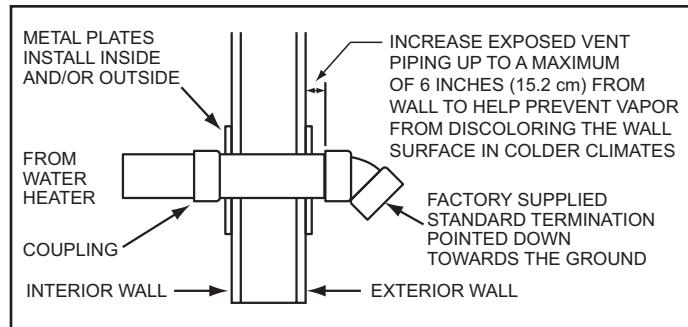

Figure 23. Sidewall Termination Installation
8. Cut a length(s) of pipe being installed 3.5 inches (8.9 cm) to 9.5 inches (24.1 cm) longer than the wall thickness at the opening. See *Figure 23*.
11. Working from outside, slide the pipe and termination(s) assembled in the above steps through the wall. Ensure the termination(s) is pointed down towards the ground. See *Figure 23*.
15. Install a coupling to the end of the pipe(s) inside the building. Before the silicone caulking has time to completely set go outside the building and ensure the termination(s) is still pointing down towards the ground. See *Figure 23*.